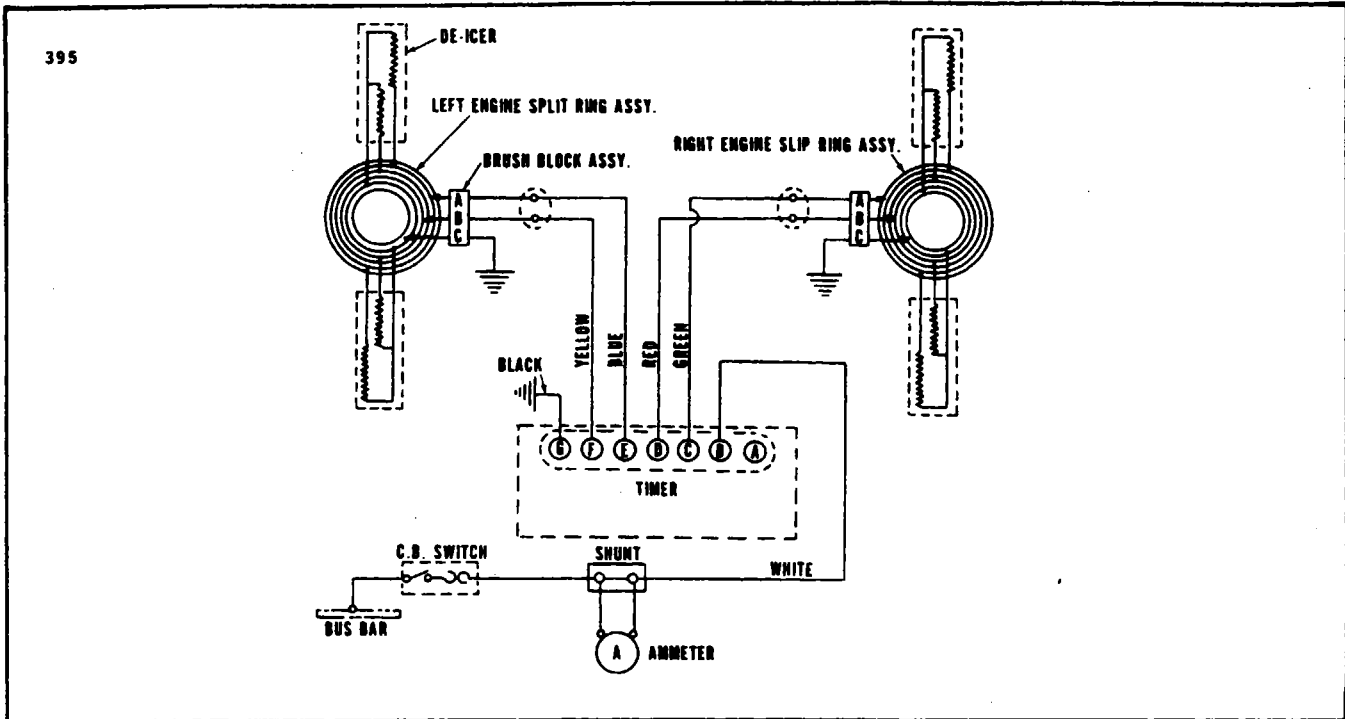

Figure 14-14. Wiring Schematic, Electric Propeller De-Icing System,
- h. System Wiring: With De-Icer system operating, have assistant observe ammeter while visually inspecting and physically flexing wiring from brush blocks through firewall, to timer, to ammeter, to switch and to aircraft power supply. The ammeter will flicker as the timer switches approximately every 30 seconds in the cycle. Jumps or flickers at other times indicates loose or broken wiring in the area under examination at that moment. In such case, check continuity through affected harness, while flexing and prodding each wire in the area that gave initial indication of trouble. Use the wiring diagram in Figures 14-14 or 14-15 to trace circuitry.